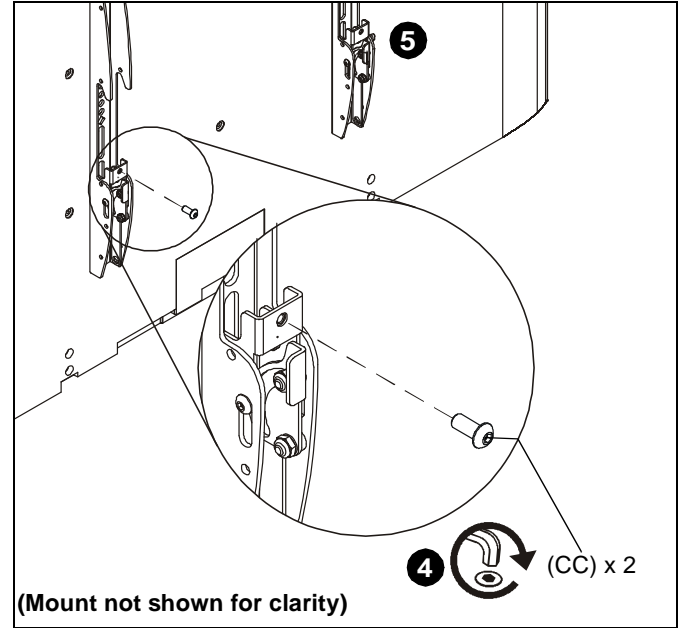

Figure 8
- Fasten bracket against ceiling mount rail using one 10-24 x 5/8" button head cap screw (CC). (See Figure 8)